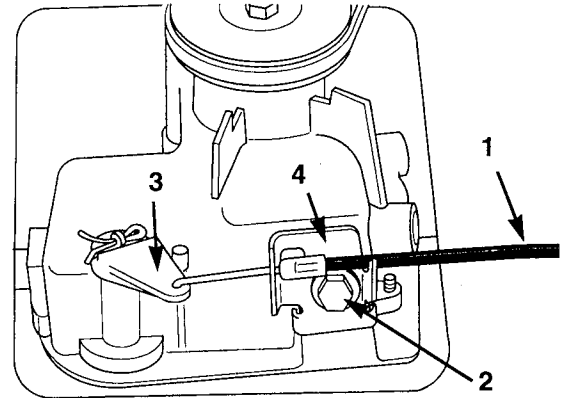

Figure 69
- D. Insert the end of the shift cable into the shift lever (Fig. 69).
- E. Secure the original shift cable bracket to the transmission, using the original hex-head screw (Fig. 69).